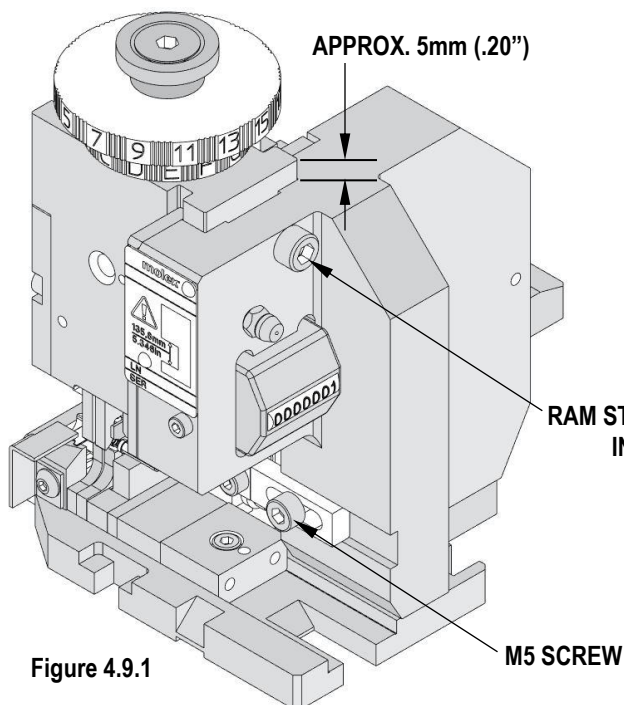

Figure 4.9.1
4. Lower the applicator ram. As it approaches the bottom of travel, finish installing the ram storage screw. When properly installed, the screw prevents the ram from falling too far (preventing tooling damage) and prevents the ram from being unintentionally pulled out of the applicator frame. See Figure 4.9.1.
5. Use a 4mm hex wrench to loosen the M5 screw on the side of the applicator frame. See Figure 4.9.1.